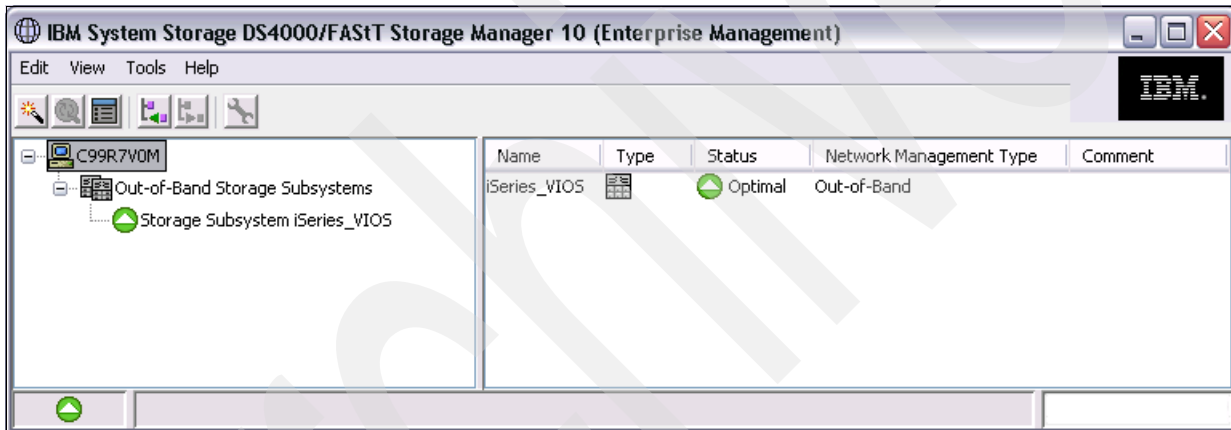

Figure 7-14 DS Storage Manager with added storage subsystem
16. The DS Storage Manager window is now showing our added DS4800 Storage System iSeries\_VIOS, as shown in Figure 7-14.